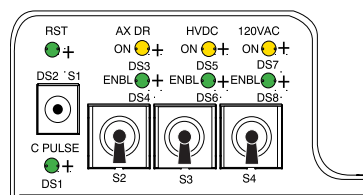

Figure A-3 STC Power Switches
**CAUTION** Before you remove the top covers, always ensure that the three (3) power switches have been turned off (see Figure A-3).
- 2.) Remove the gantry side and top covers, if you have not already done so. Refer to Section 1.0 in this chapter. Ensure that the three (3) power switches have been turned off (see Figure A-3).